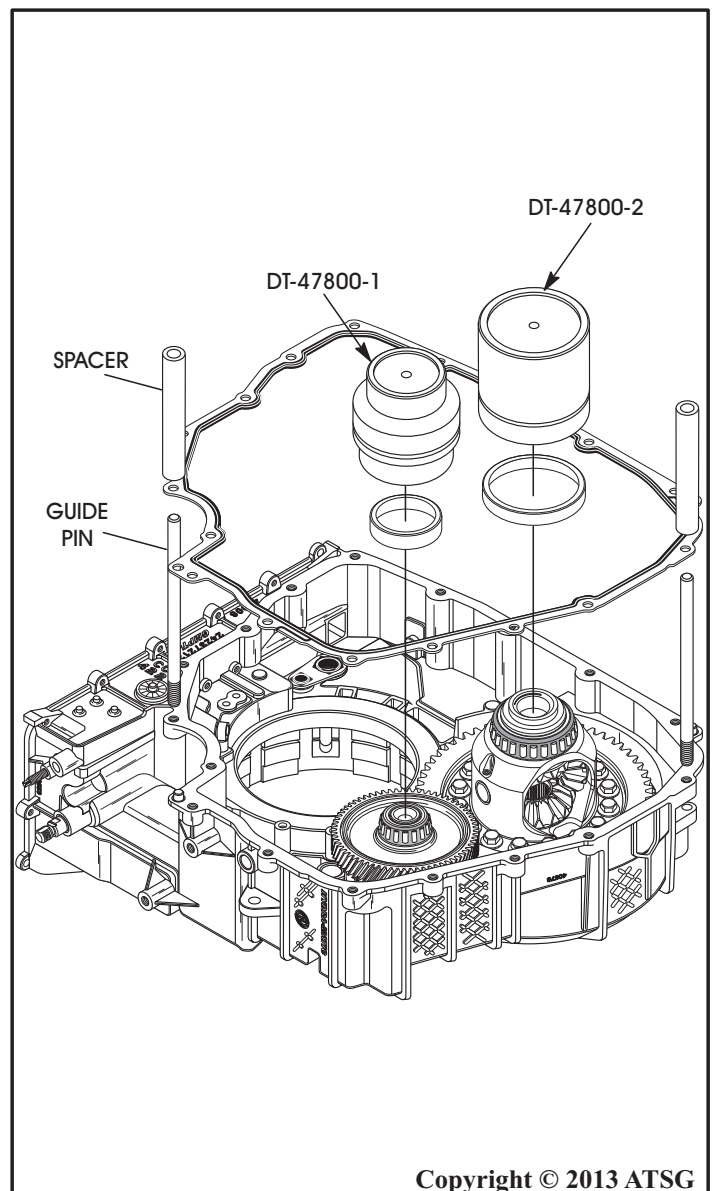

Figure 93
2. Install the pre-assembled differential carrier and pre-assembled differential pinion gear assembly into the case, as shown in Figure 93.
3. Install the new bearing cup onto the differential pinion gear and place DT-47800-1 onto the bearing cup, as shown in Figure 93.
4. Install the new bearing cup onto the differential carrier assembly and place DT-47800-2 onto the bearing cup, as shown in Figure 93.
5. Install the two guide pins from the DT-47800 kit into a case threaded hole at approximately 180 degrees apart, as shown in Figure 93.
6. Install the converter housing to case gasket over the guide pins and onto the case surface, as shown in Figure 93.
7. Install two of the spacers included in DT-47-800 kit over the guide pins and onto the case gasket, as shown in Figure 93.